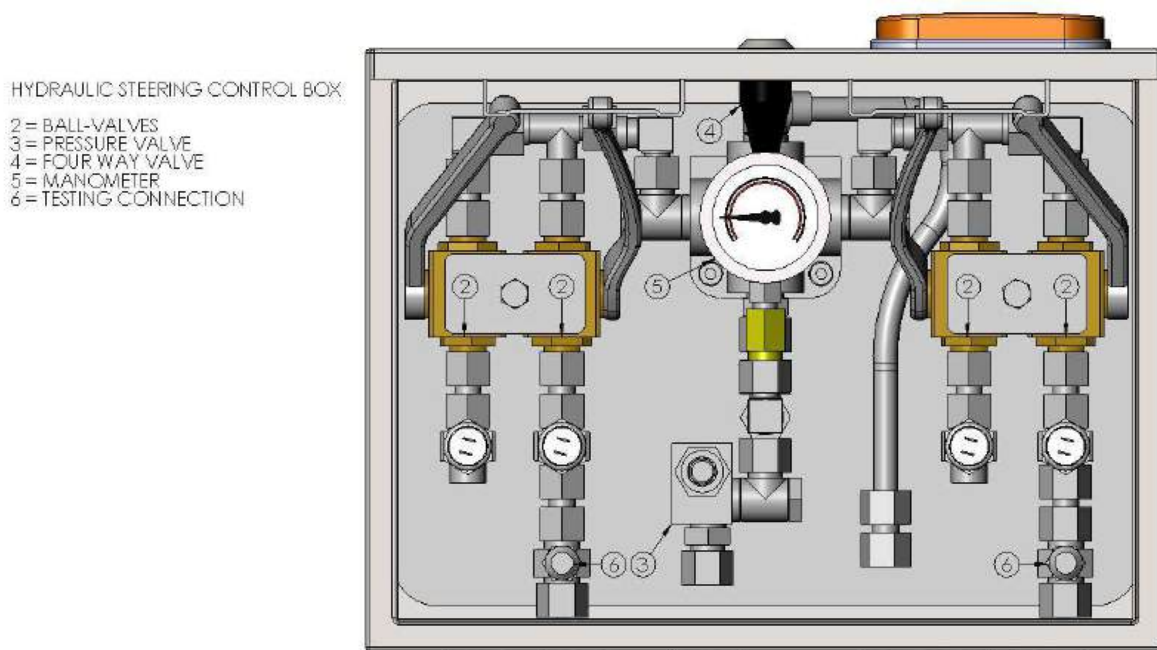

Fig. 8
The ball valves, which are located in the control box (see fig. 8 pos.2) must be opened. Proceed by operating the handpump until the pressure gauge reads 40 bar. While pressurizing the system the pressure can not exceed 40 bar, because the pressure valve (see fig. 8 pos.3) opens at 40 bar.
Open all ball valves (see fig. 8 pos. 2).